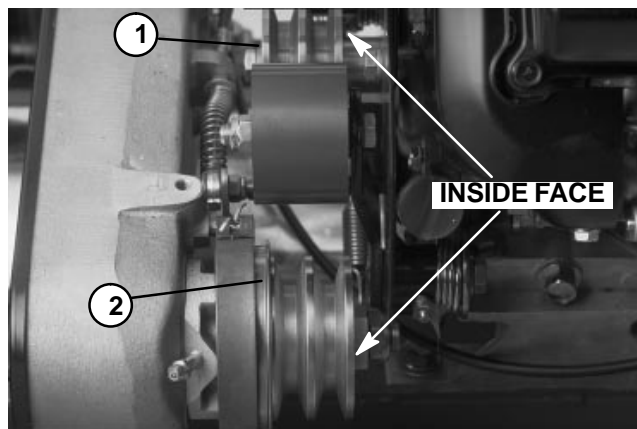

Figure 16
B. Install four cap screws (23) and flat washers (7) through the engine and engine base. Install throttle cable bracket (24) under the left front cap screw. Put flat washer and lock nut (26) on each cap screw and hand tighten.
C. Use scribe mark on engine block to align engine. The distance between engine output shaft center and power shaft center should be from 5.11 to 5.23 inches (130 to 133 mm). Inside pulley faces should be flush to each other to within 0.030 inch (0.762 mm) maximum (Fig. 16).
E. Reconnect both black/white wires on the clutch switch (16) to both brown wires.